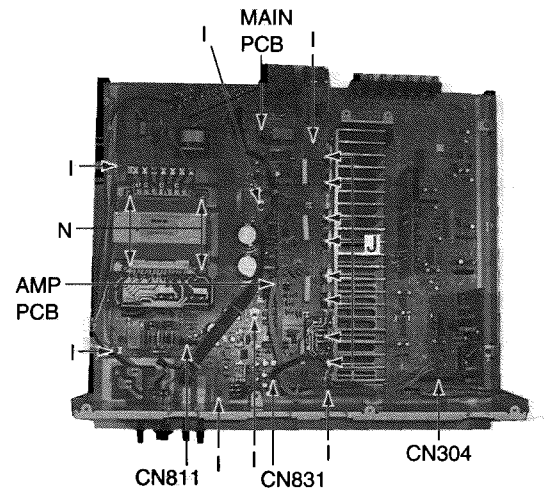

Fig.7
(6)MAIN P.C.BOARD Removal (Fig.7,8)